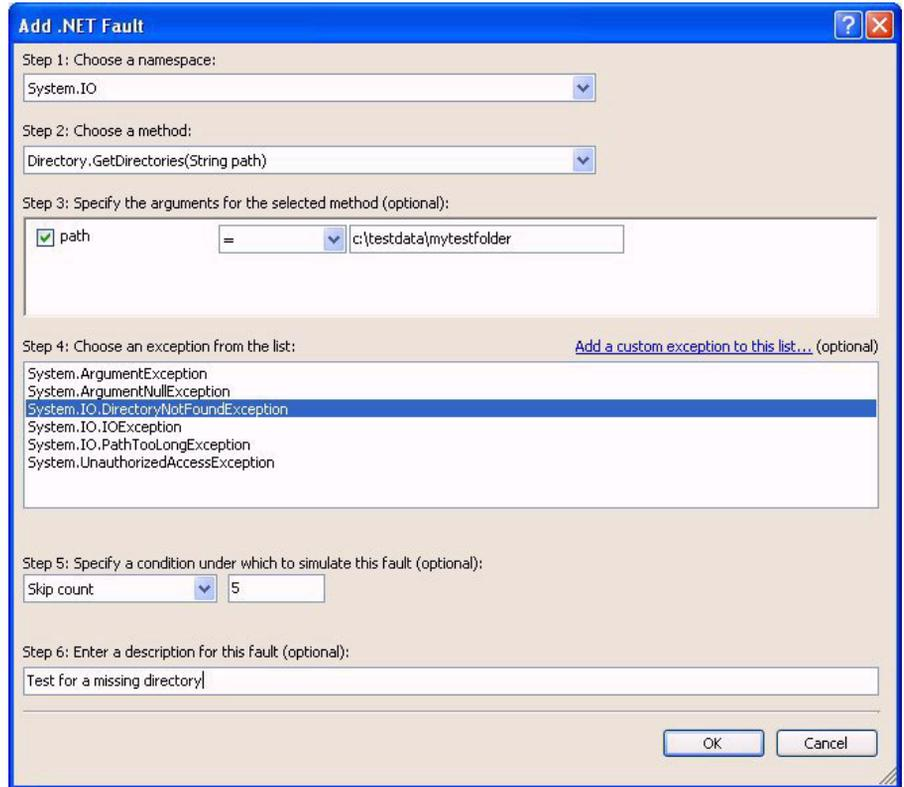

Figure 6-2. Add .NET Fault Dialog Box
- 4 Add and configure a .NET fault on the **Add .NET Fault** dialog box, as shown in Figure 6-2.